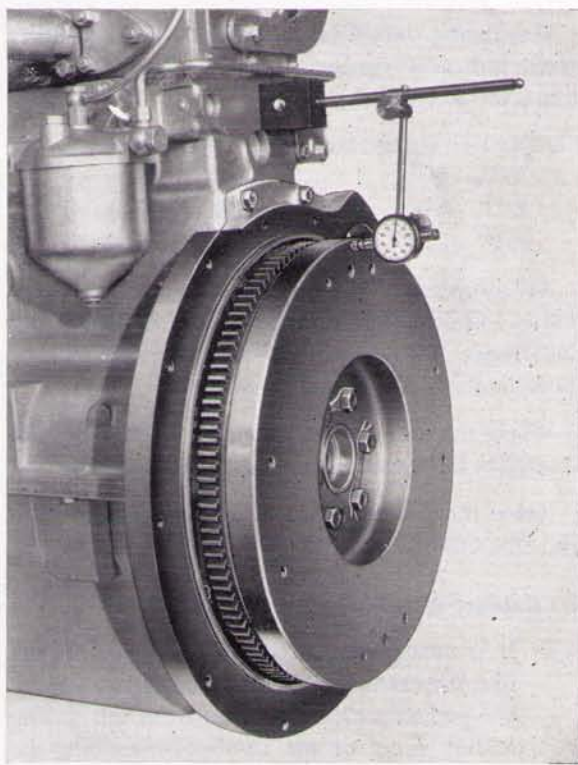

Fig. S.2.
6. With the base of the 'clock' gauge secured to the cylinder block, set the clock so that the plunger rests against the vertical machined face of the flywheel. See Fig. S.2.